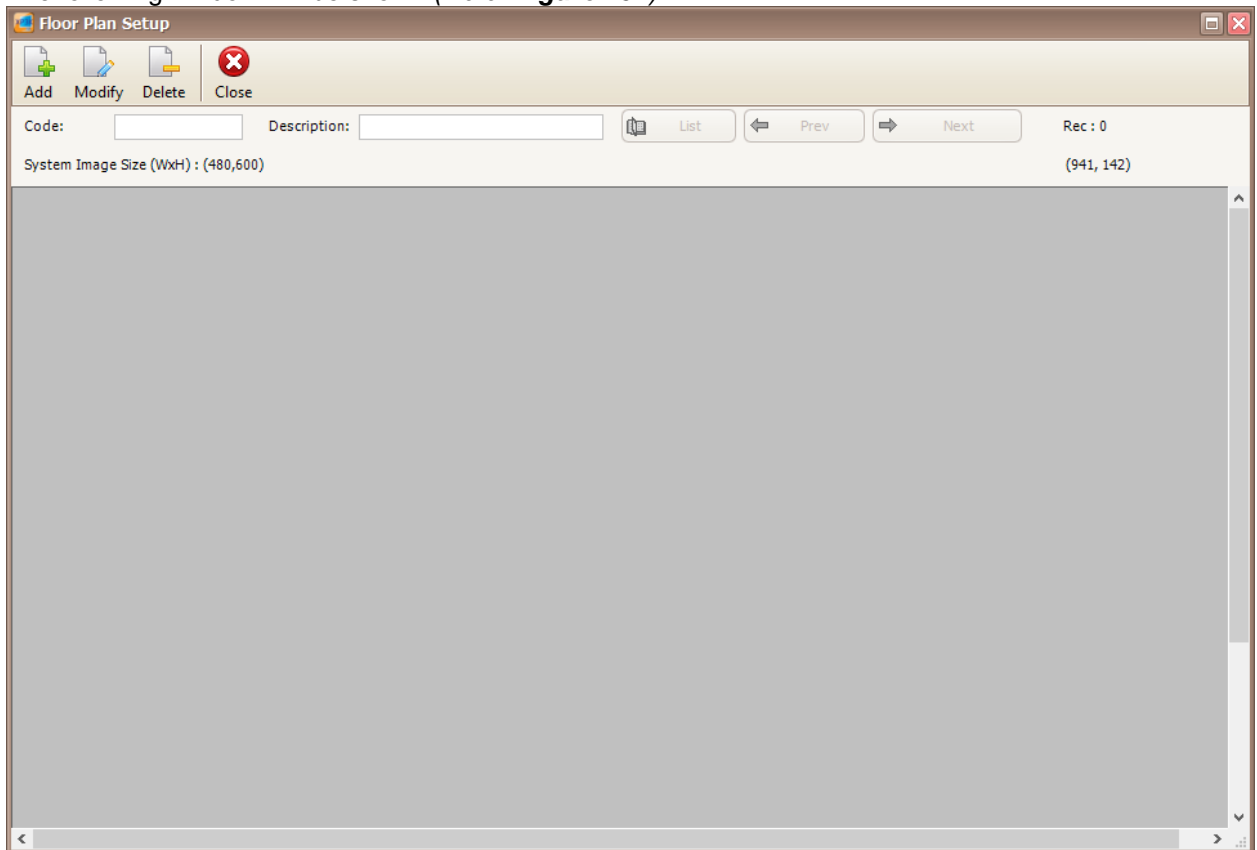

Figure 157 - Floor Plan Setup
2. The following window will be shown (Refer **Figure 157**).